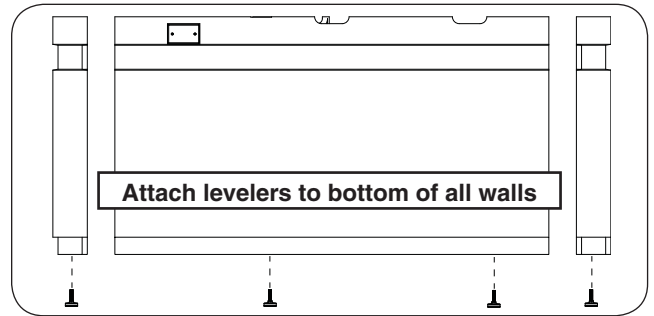

Fig. 9-1 Attach levelers
2. Carefully lay down all pieces that make up the island base and attach the levelers (see Fig. 9-1).